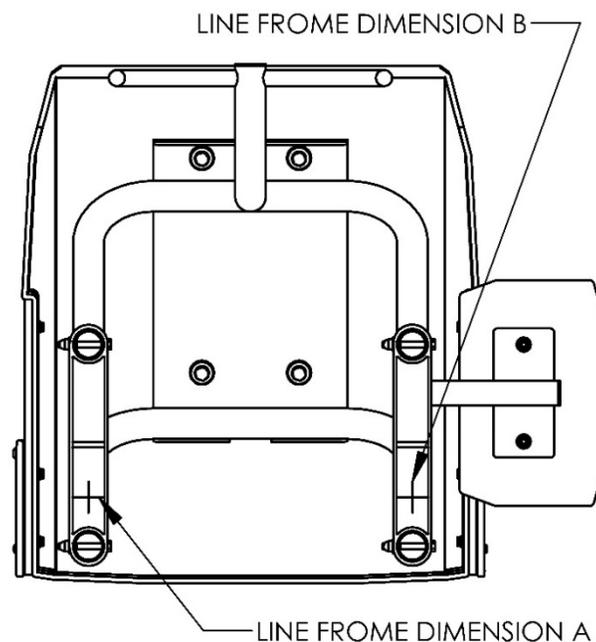

FIGURE 6
- Place the Velocity VR starting platform upside down on a soft surface such as cardboard or carpet. Using a pencil, transfer the mark that is on the side across the bottom of the anchor plate. Using Dimension A make center marks on the bottom of the anchor plates so that the marks are as centered as possible. **See Figure 6.**